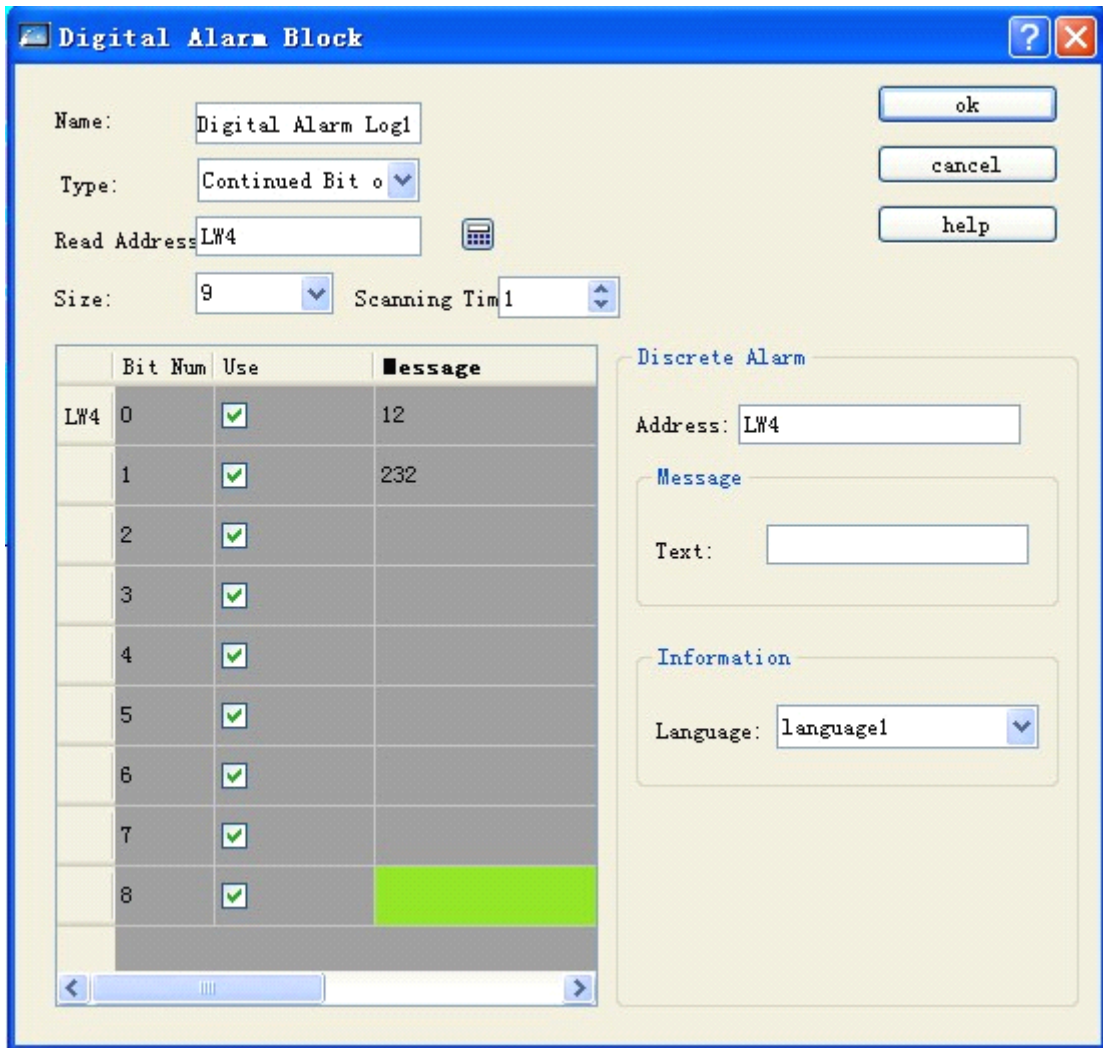
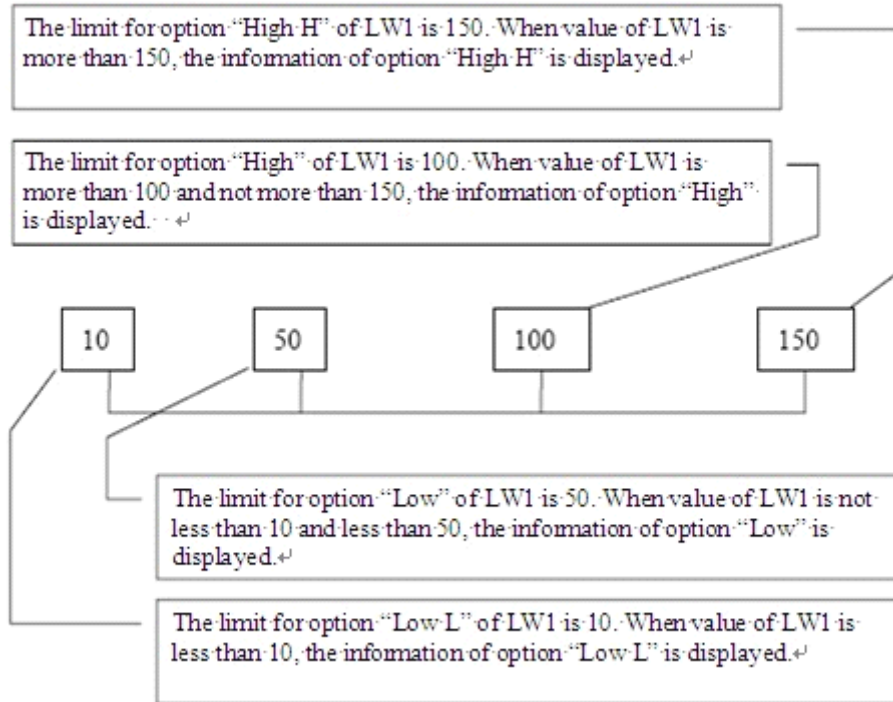

Figure 7-24 The dialog box of digit alarm at “word value”
Figure 7-27 Area division of four address values of LW1
If the type is “word value”, it is shown as Figure 7-24.
- Click every item in list box. Move mouse to right “Limit” and enter one data into it. Then, move mouse to the edit box “Text” in right module “Message” and enter the corresponding text information in the box, i.e. alarm content. Suppose the information set here (i.e. alarm content) is as shown in figure 7-24. From this figure, we can see that each address value can be divided into 4 areas (i.e. data subarea of alarm address): low low, low, high and high high. In following content, we take address LW1 for example to describe the meaning of these 4 areas (all the option "Use" for four options of address LW1 is selected), as shown in figure 7-27.